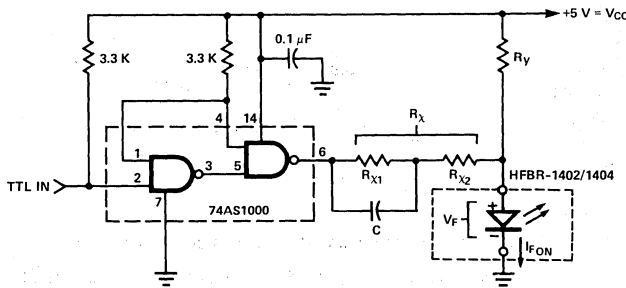

Figure 4. Recommended Drive Circuit
1. Pre-bias is recommended if  $I_F < 30$  mA, see recommended drive circuit in Figure 4.
Rise and fall times can be improved by using a pre-bias current and "speed-up" capacitor. A pre-bias current will significantly reduce the junction capacitance and will not change the extinction ratio appreciably. The recommended TTL compatible drive circuit in Figure 4 using a speed-up capacitor will provide typical rise and fall times of 4 ns. The following set of equations will give the component values for the circuit for different transmitter drive current: